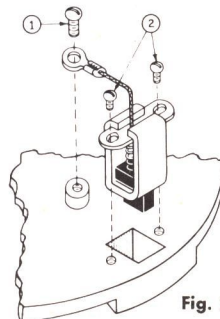

Fig. 2
Referring to Fig. 2, remove the screw (1) that fastens the shunt lead to the radiator disc and then the two small screws (2) that hold the brush assembly proper. This can now be lifted out of the radiator disc. Replace with the new assembly. Work in the new brush assembly